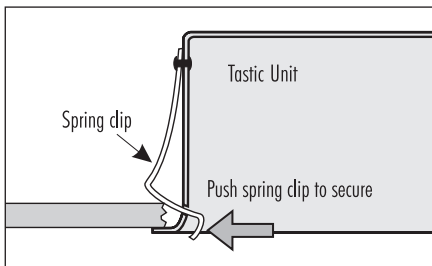

Fig. 16
3. To secure the Tastic in position, push lower ends of springs apart (Fig 16). Ceiling board thickness should be adjusted to enable springs to be fitted without excessive force.